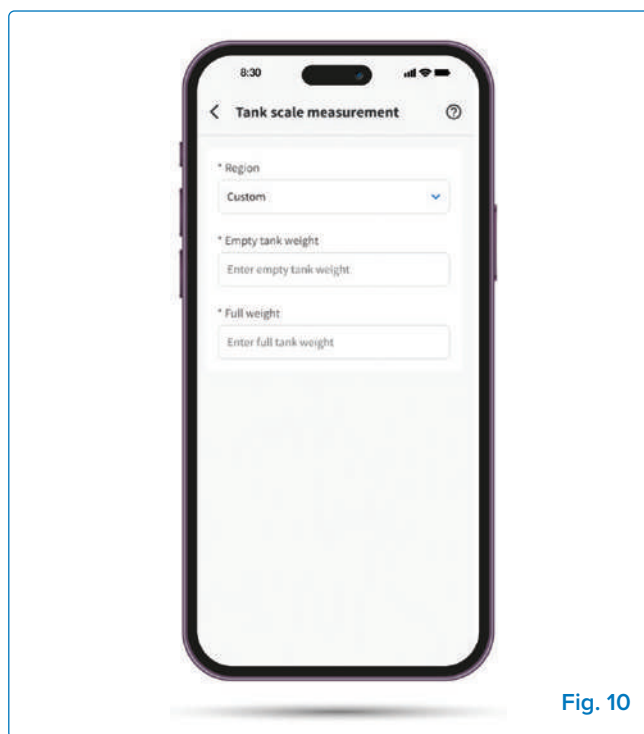

Fig. 10
- » **Custom Tank (Optional):** Enter the weight of an empty and full tank for accurate monitoring (**Fig. 10**).